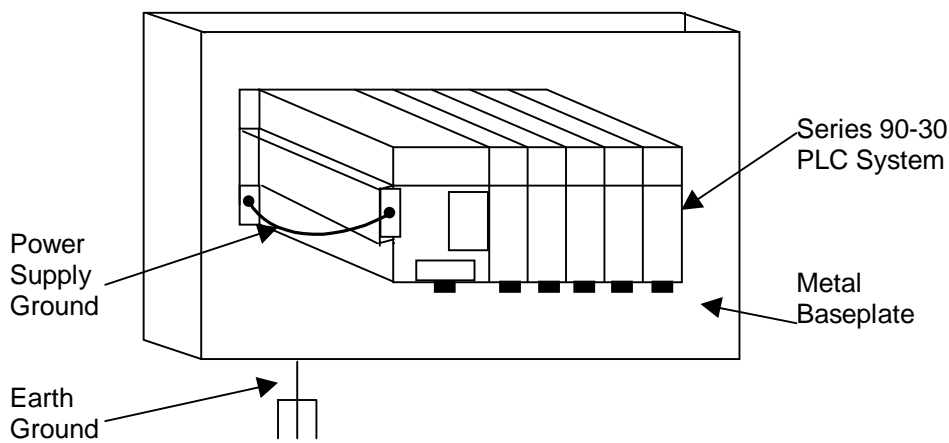

Figure 1-3 Series 90-30 Grounding
a. Series 90-30 Products (See Figure 1-3.)